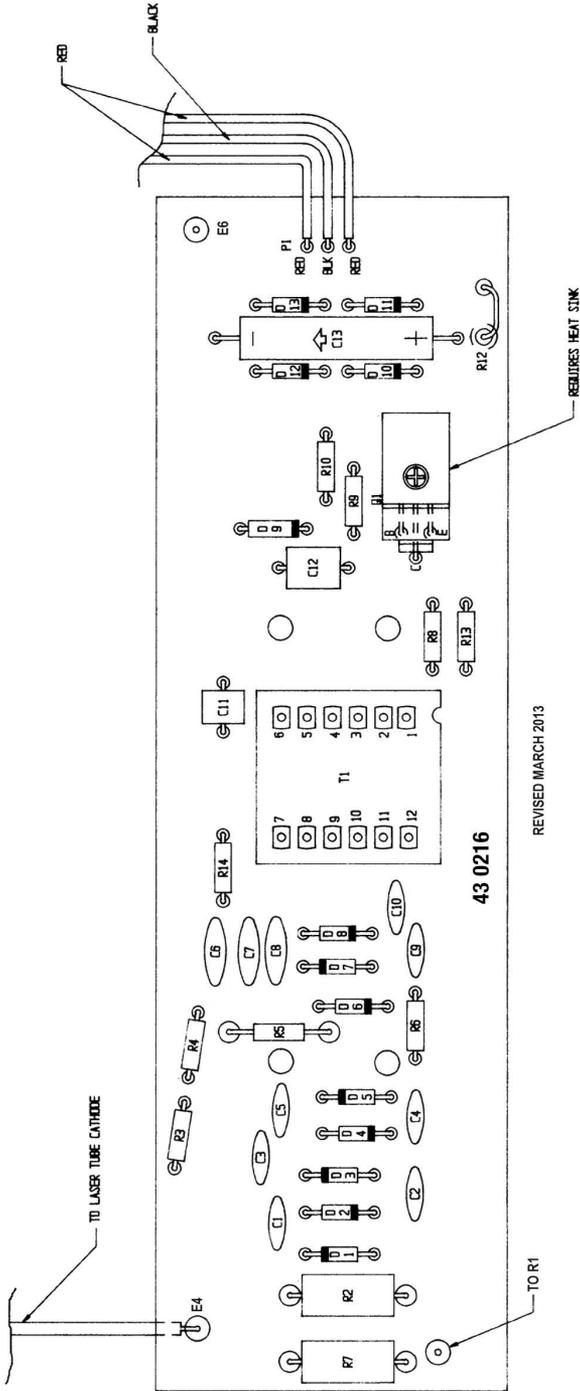

Figure 1. Printed circuit board assembly diagram.
Follow the instructions below to mount the 13 diodes (D1 through D13) on the printed circuit board. Refer to the printed circuit assembly diagram (Figure 1) for their correct positions.
There are 12 resistors to be mounted on the printed circuit board. R1 is mounted to the laser tube and will be installed later. Follow the instructions below and refer to Figure 1 for placement locations.
Refer to the assembly diagram (Figure 1) and the instructions below to mount the 13 capacitors on the printed circuit board.
Refer to Figure 1 and follow the instructions below to mount transformer T1 on the printed circuit board.
1. Check that diodes, resistors, capacitors and other electrical parts are mounted in the correct positions of the printed circuit board. Refer to both the assembly diagram (Figure 1) and the schematic diagram (Figure 4) while checking each part.